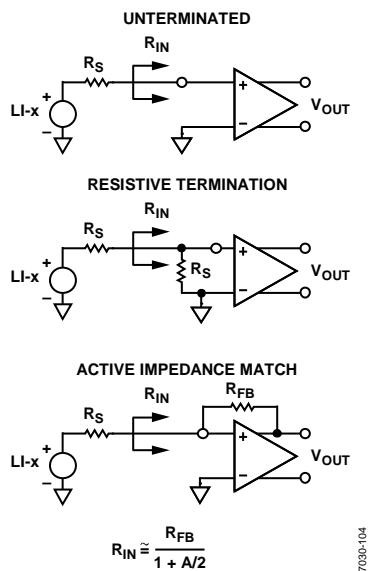

Figure 41. Input Configurations
The short-circuit noise voltage (input-referred noise) is an important limit on system performance. The short-circuit input-referred noise voltage for the LNA is $1.4 \text{ nV}/\sqrt{\text{Hz}}$ at a gain of 21.3 dB, including the VGA noise at a VGA postamp gain of 27 dB. These measurements, which were taken without a feedback resistor, provide the basis for calculating the input noise and noise figure (NF) performance of the configurations shown in Figure 41.